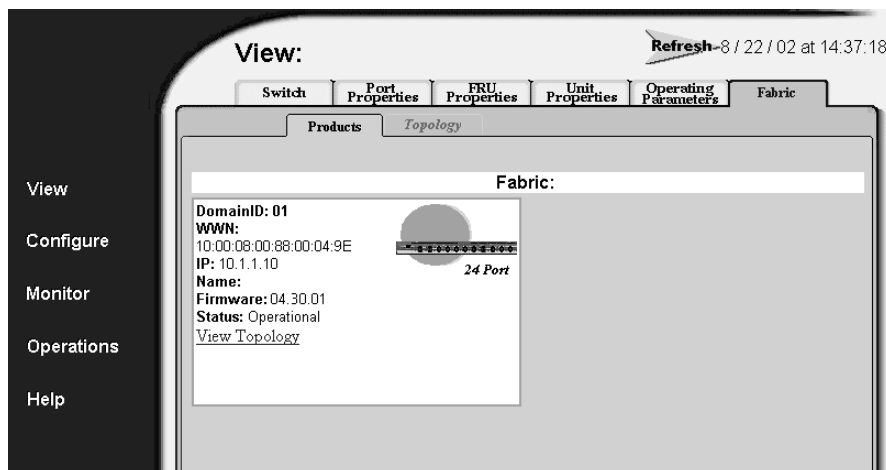

Figure 28: Fabric tab with Products tab view
2. Choose the **Fabric** tab and the **Products** tab. The **Products** tab view displays (Figure 28).